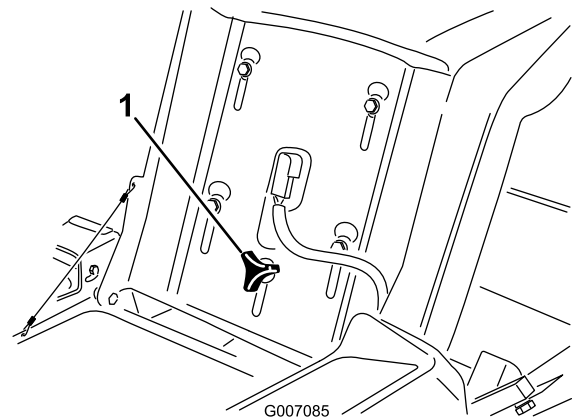

Figure 18
1. Raise the seat and loosen the adjustment knob just enough that seat can move (Figure 18).